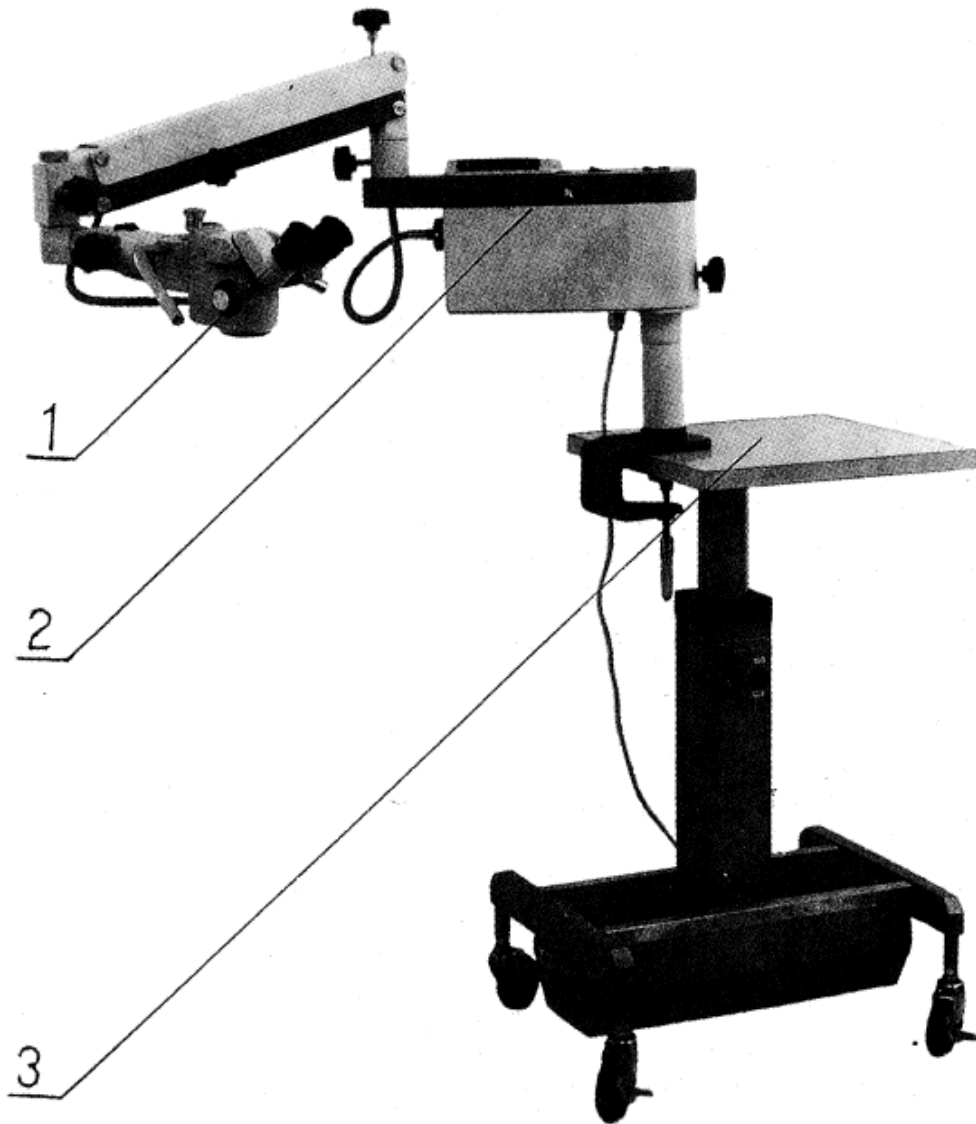

Fig 1
- (2) Take off the operation handle and sterilization cover, and have them sterilized before using. Assemble it while using .
- (3) Release the brake with one foot (refer to Fig.1 1). Move the instrument to a proper position. Stamp down the brake wing so that the machine isn't able to move. Then insert the power plug of microscope into the 220V output socket on the lower part of the base. Connect 220V input with power source.
- (4) Make the small arm be in a horizontal position. Adjust the table height. Be sure the objective is about 200mm from the floor.